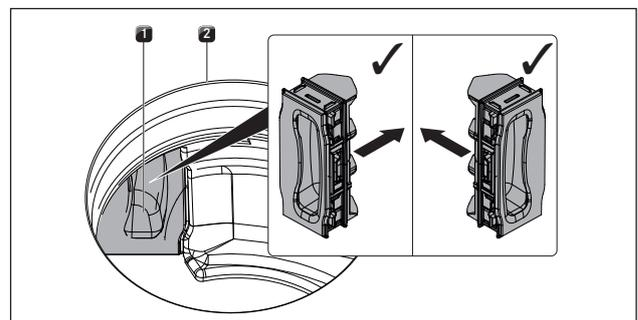

Fig. 8.10 Inserting the filter replacement cover
- ▶ Inside the inlet opening push the filter replacement cover until it comes to a stop in the filter housing opening (To insert the filter replacement cover see Fig. 8.10).